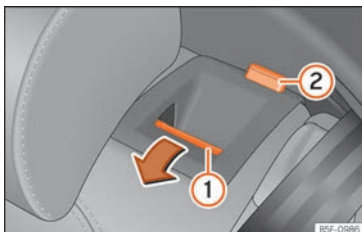

Fig. 118 Rear seat: folding the backrest.
- Press the unlock button »» **Fig. 118** ① forwards and at the same time fold the backrest down. The rear seat backrest is not engaged when the red marking of the button ② is visible.
The rear seat backrest is not engaged when the red marking of the button » **Fig. 118** ② is visible.